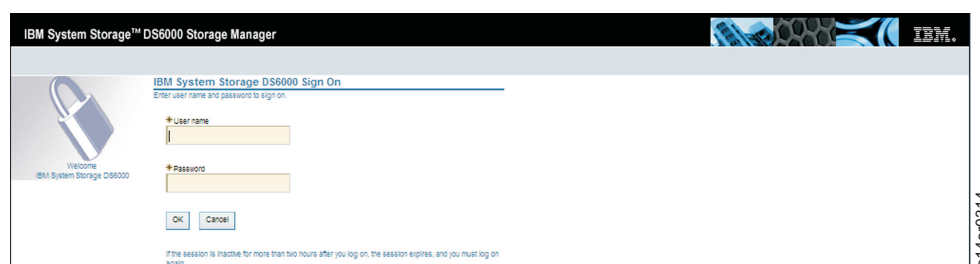

Figure 243. DS6000 GUI Login Username and Password Screen
2. From the Main Menu, select **Browser Functions > DS6000 Functions > Launch GUI**. You see the browser window in Figure 243.